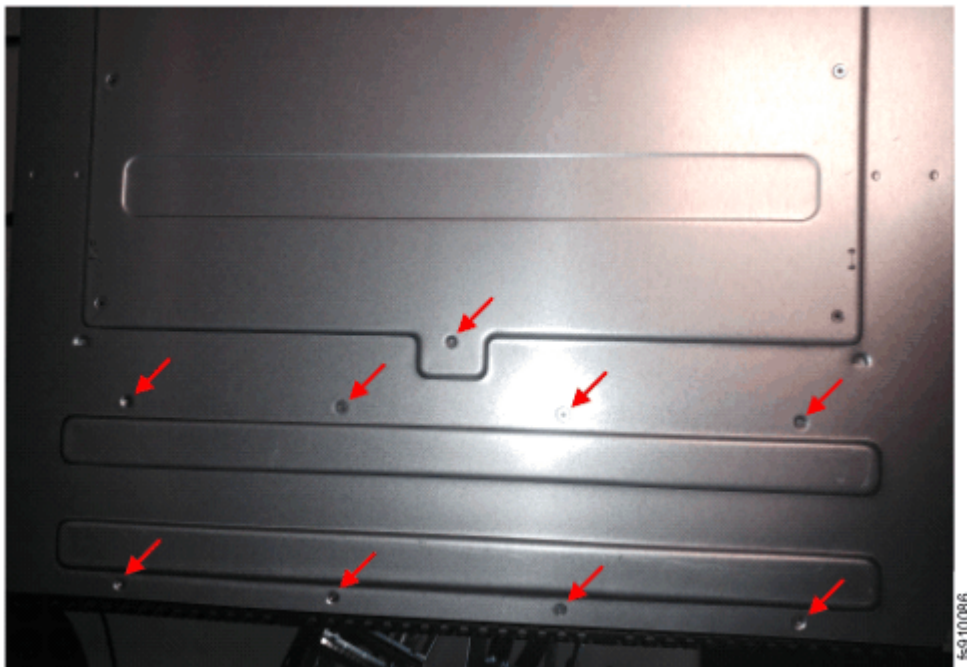

Figure 115. Location of the screws on the underside of the control enclosure
14. Remove the nine screws from under the front of the enclosure (see Figure 115 on page 154).